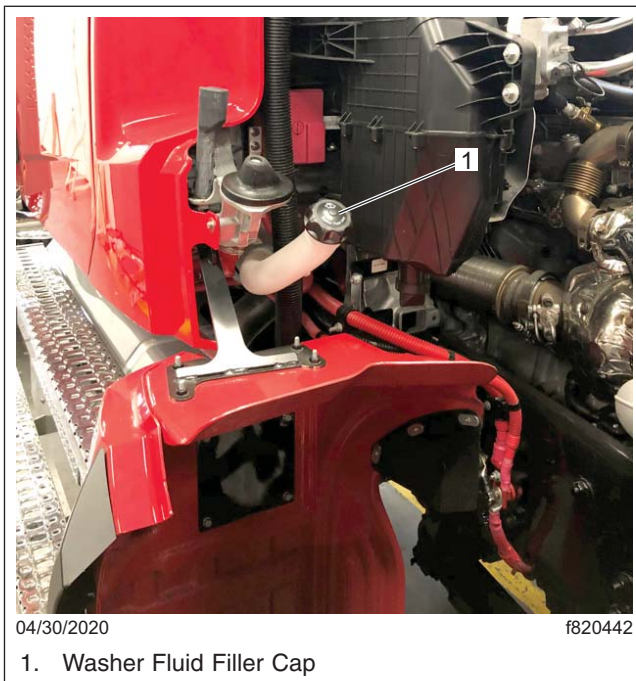

Fig. 23.10, Windshield Washer Reservoir
1. Check the windshield washer reservoir fluid level. The reservoir is usually located near the right-hand frame rail. See Fig. 23.10.